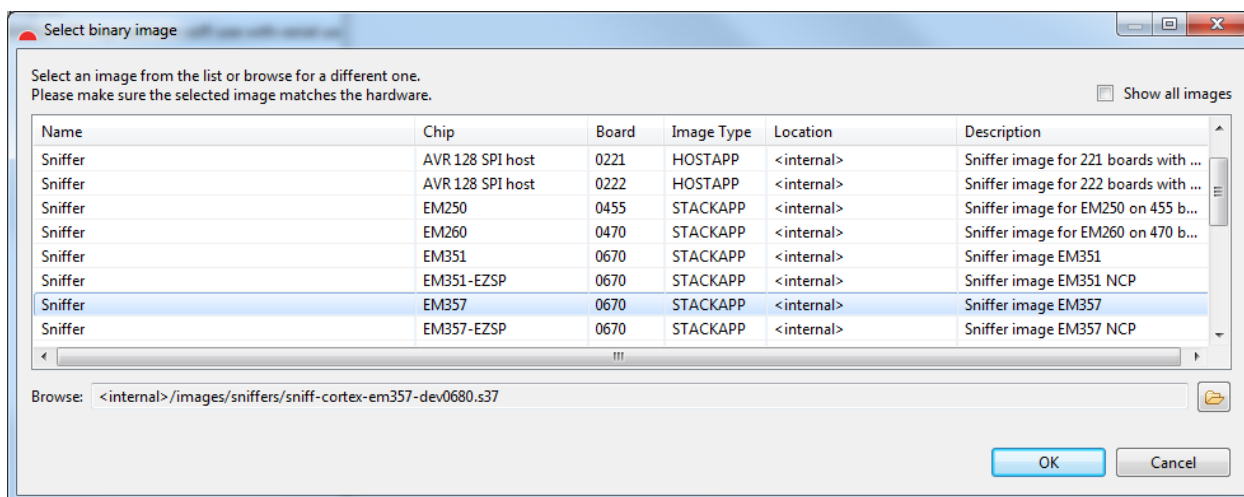

Figure 19. Ember Desktop screen shot selecting the Sniffer image for the EM357
2. Choose the EM357 Sniffer image (`<internal>/images/sniffers/sniff-cortex-em357-dev0680.s37`), as shown in Figure 19.